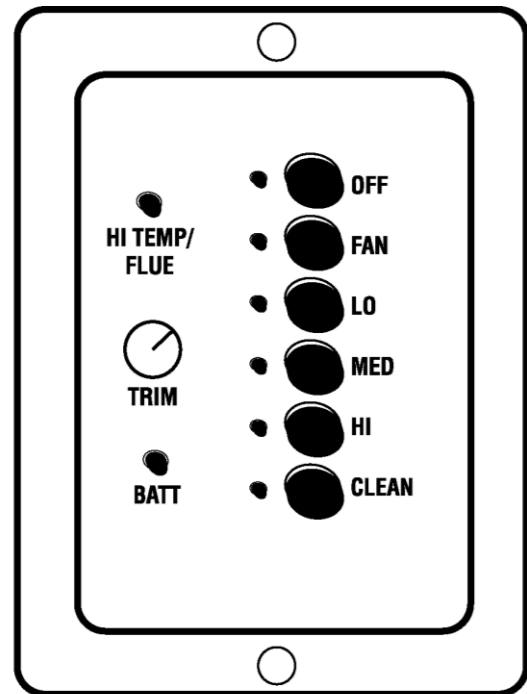

FIGURE 11
The control functions on the Echo are as follows: OFF, FAN, LOW, MED, HIGH, and CLEAN (see FIGURE 11).
1. The Trim Button located on the control plate (see FIGURE 11) changes the feed rate on each setting (i.e., Hi, Med, Low). Turning the trim button clockwise will increase the feed rate. Turning the trim counterclockwise will decrease the feed rate. For example, if the pellet being used is a hardwood pellet and longer than 1", then the stove could go out on the low setting for lack of fuel. Turn the trim clockwise to increase fuel and thus sustain the fire.